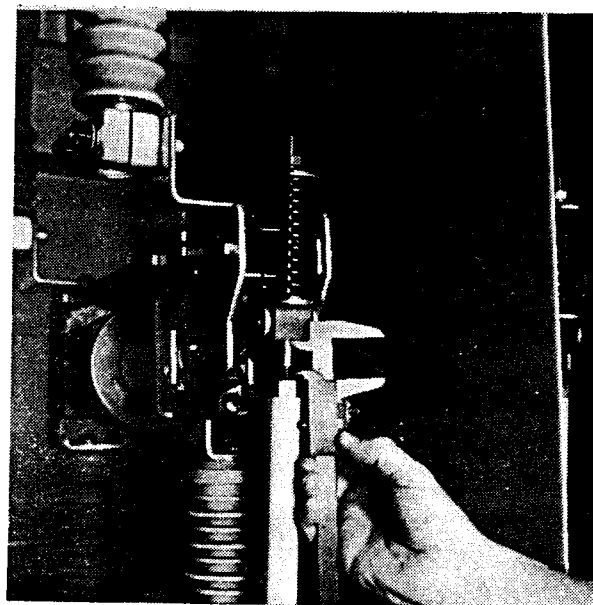

Figure 20. Erosion Check
- Measure the gap between the end of the coupling rod and the bottom of the pivot block (see Figure 20). Subtract this measurement from the base dimension recorded on the decal next to the interrupter. If the difference is 0.22 inch or more, the interrupter must be replaced. See Appendix E for replacement procedures.